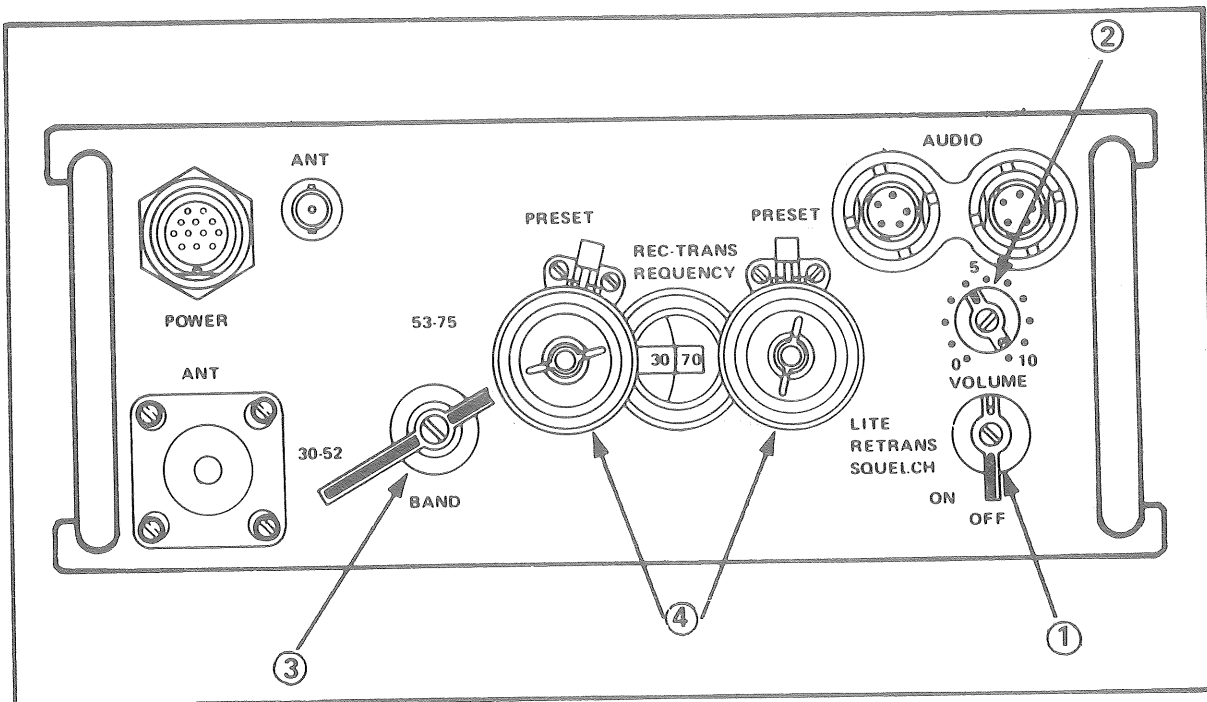

Figure 1. Receiver-Transmitter controls, indicators, and connectors.
1. Set operator's switches and controls. (Refer to fig 1 and TM 11-5820-667-12, chap 3, para 3-4, p 3-4; or TM 11-5820-398-12, chap 3, para 3-4, p 3-4.)
- a. Turn the receiver-transmitter function switch (1 on fig 1) to ON, or SQUELCH, as authorized in the unit SOP.
2. Preset channel frequencies. (Refer to figs 1 and 2, and TM 11-5820-667-12, chap 3, para 3-2, pp 3-1 thru 3-4; or TM 11-5820-398-12, chap 3, para 3-2, pp 3-1 thru 3-4.)